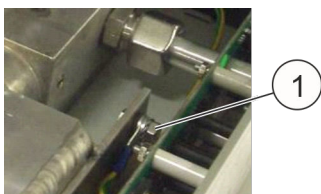

Fig. 48: Earthing screw
7. **▶** Remove the earthing screw (Fig. 48/1) from the tank.